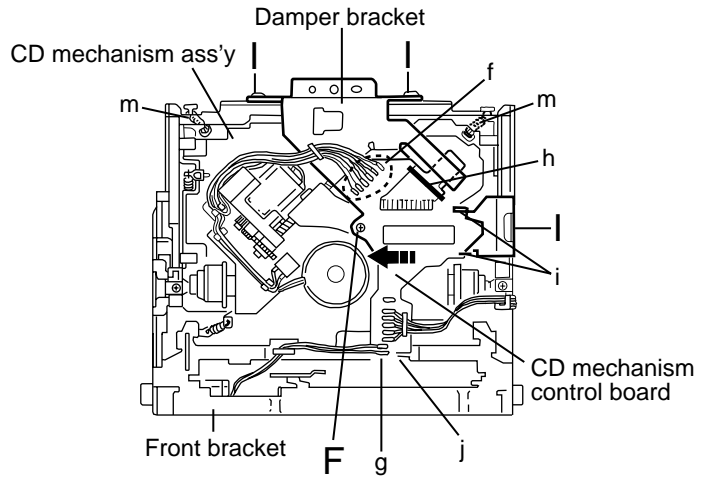

Fig.1
■ **Removing the CD mechanism control board(See Fig.1 and 2)**
(See Fig.1, 6 to 9)**